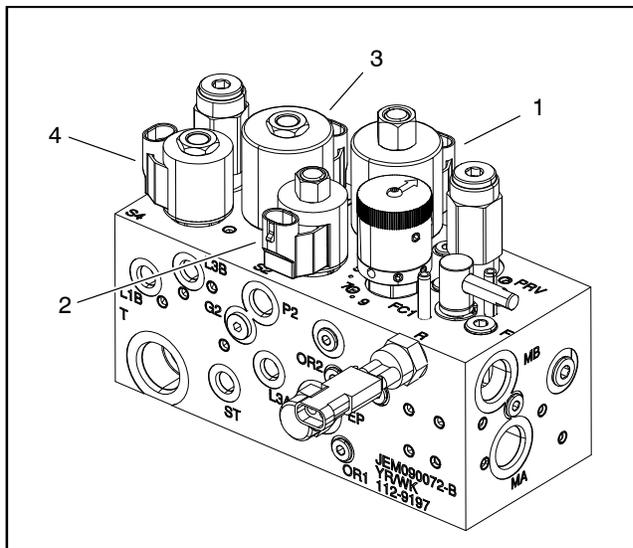

Figure 23
1. Determine solenoid coil(s) that is to be tested and locate coil on hydraulic manifold (Fig. 23). Disconnect harness electrical connector from solenoid valve coil.